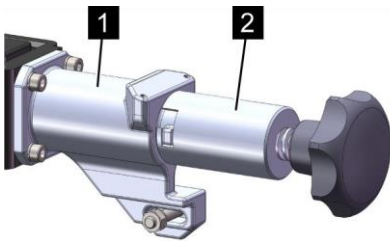

Fig. 162: Clamping device
9. ➤ If the valves on the pilot distributor have been opened electrically, reset the EM release device (Fig. 162/1) with clamping device (Fig. 162/2)